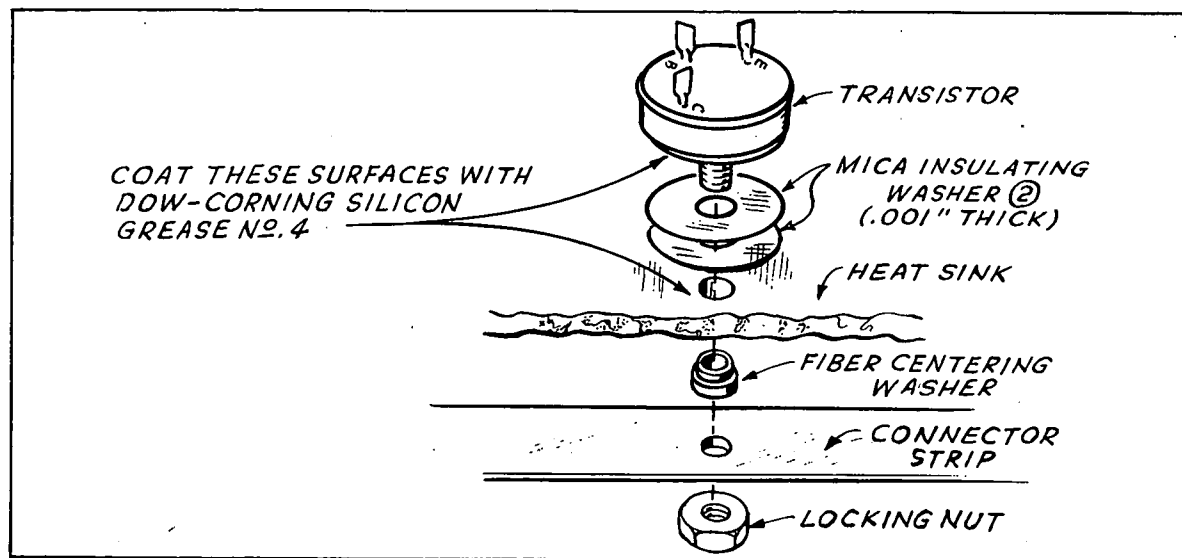

FIG. 14 - TRANSISTOR INSTALLATION
1. Remove the defective transistor and thin (.001) mica insulating washers (Fig. 14).
2. If available, lightly coat the copper base of the transistor and heat sink as shown in Fig. 14 with Dow Corning Silicon grease #4 or Dow Corning Silicon Oil #200.
3. See Fig. 14 for replacing transistors. Tighten nut to a maximum of 20 inch pounds. **CAUTION:** Use only enough force to provide a snug tightness. **DO NOT OVER TIGHTEN.** Do not allow the transistor to turn while tightening. Turning damages the insulating washers.